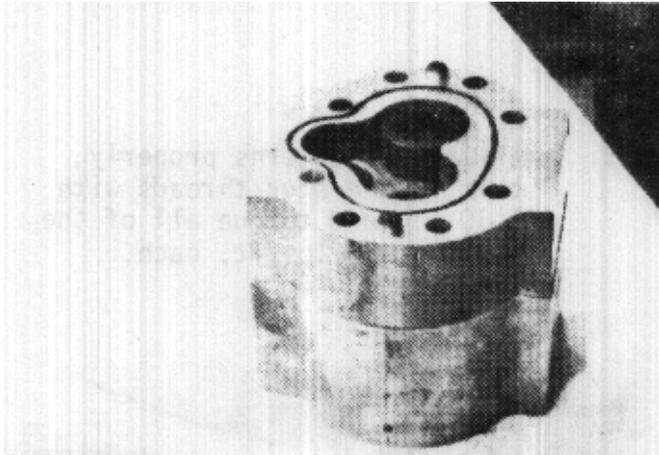

FIGURE 61
33. Install the spline coupling (16) and O-ring (25). (Figure 61)